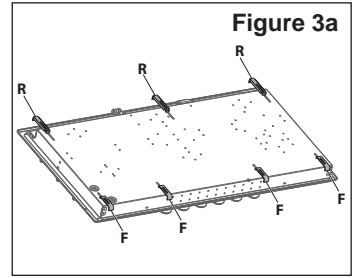

Figure 3a
- Cut the unit according to the dimensions in fig. 3a.